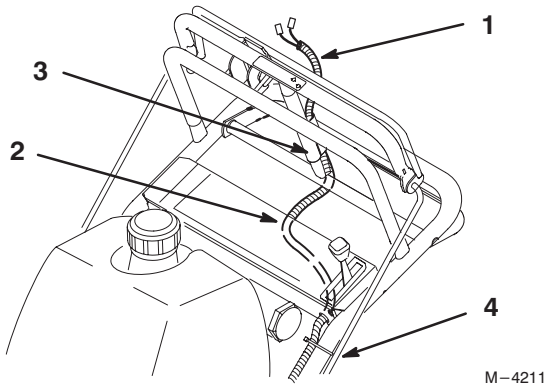

Figure 3
1. Route wire harness inside of frame, along left handle and over throttle cable. Compress wire harness covering and press into lower and upper holes in rear of control panel (Fig. 3).
2. Thread harness up through rear tube of traction handle (Fig. 3).
5. Secure wire harness and throttle cable to left handle, away from PTO lever, with wire tie (Fig. 3).